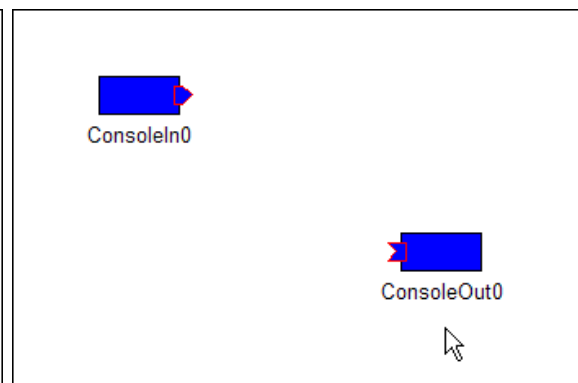

Fig. 4.7: Unselecting a component
**Unselecting components** An RT-Component can be unselected by a left-click in any other area (Figure 4.7).